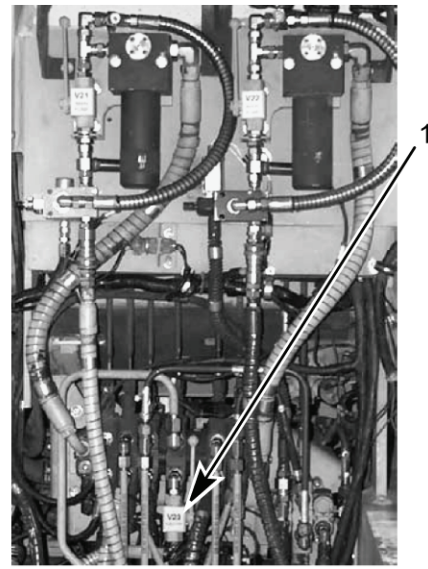

Figure 10. DCV Bank
- Disable ejector by manually closing the ejector inhibit ball valve V23 (Figure 10, item 1) on the DCV bank.